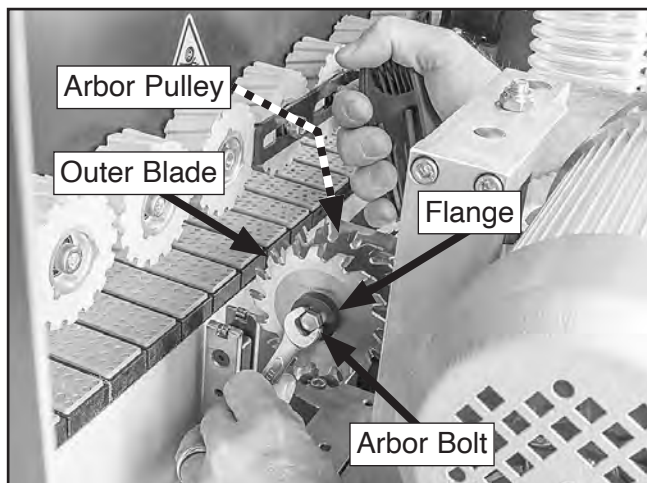

Figure 104. Loosening arbor bolt.
5. Use 6mm hex wrench to secure arbor pulley and 10mm wrench to remove arbor bolt and flange (see **Figure 104**), then remove outer blade.